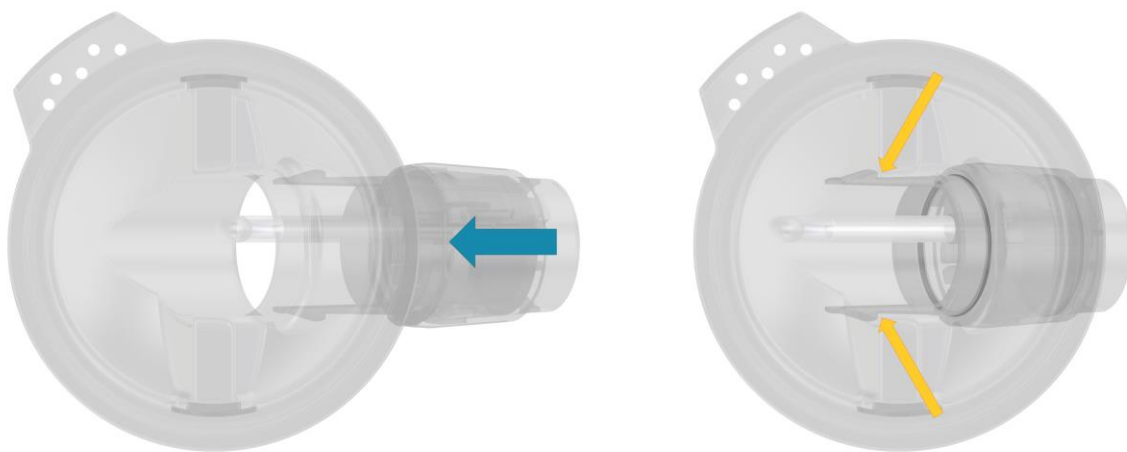

Figure 9 – Attaching the connecting element
- ◆ Attach the connecting element with the tubing to the lid until the two tabs are firmly in place as shown in **FIGURE 9**.